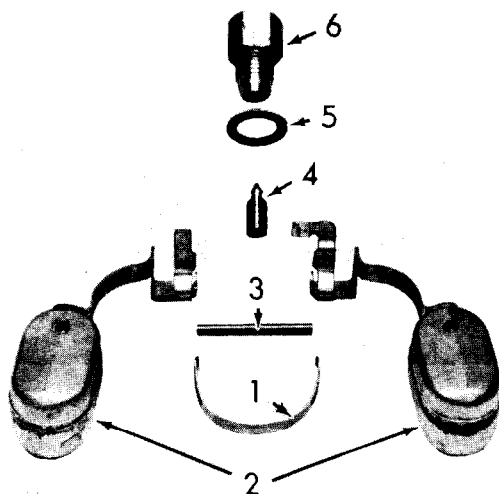

Fig. 11
Remove the float lever pin retainer (1, Fig. 11). Remove the needle valve and seat assembly (4 and 6). Remove the gasket (5) from the assembly.